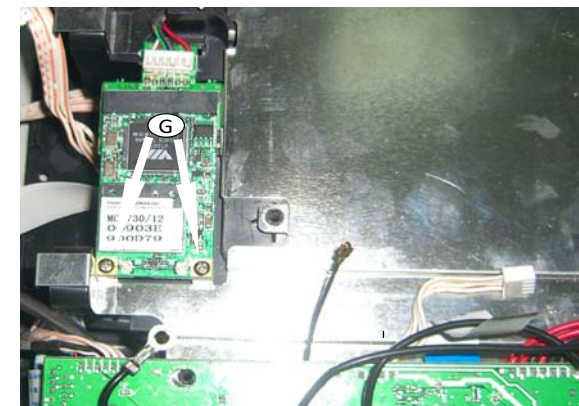

Figure 7
- 1) Loosen 2 screw "G" to detach WIFI card as shown in figure 7.